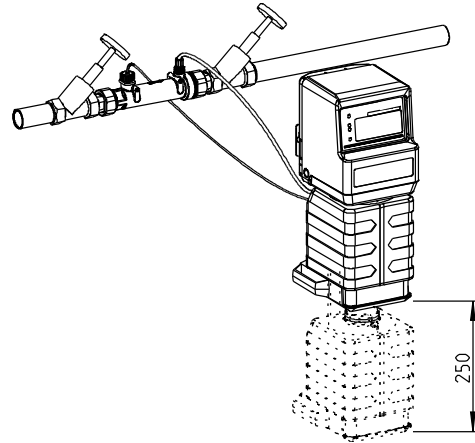

Fig. D-1: Dosing computer EXADOS® EK 6
2. The actual difference between the dosing computer EXADOS® EK (fig. D-1) and the dosing computers EXADOS® ES and EGS is that the compact system EK features a 3 litre dosing tank while the dosing computers EXADOS® ES and EGS are equipped with a suction lance and a separate, disposable 10/20 kg canister. A 100 l or 200 l supply tank is available on request.
Please make sure that at least 250 mm of space is available beneath the compact system EK for the replacement of the dosing tank (fig. D-1).